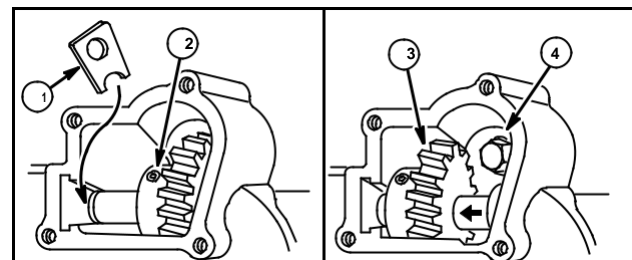

Fig. 50
3. Lift out shaft stop (1), Fig. 50.
NOTE: Sump is held on by six screws. Five screws are exposed. The sixth screw is under the auxiliary drive cover, Fig. 50.